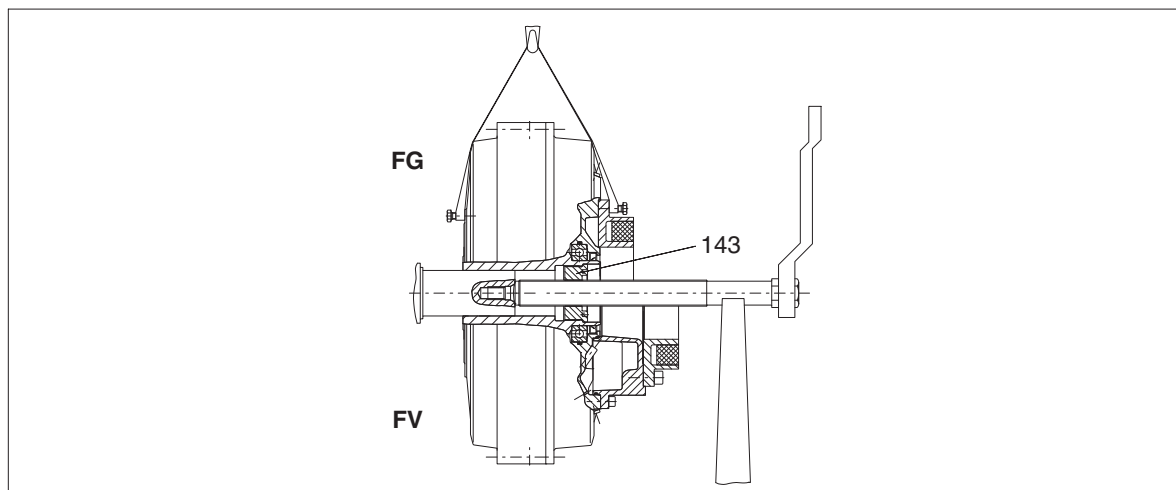

Fig. 15: Support of spindle
- Screw the spindle into the forcing-off thread (dimension G) of the sleeve (143) and turn forward as far as the shaft-stub end face and into the protective countersink in the centring thread (Figure 15).
- Support the spindle to prevent flexing and canting (see figure 15).